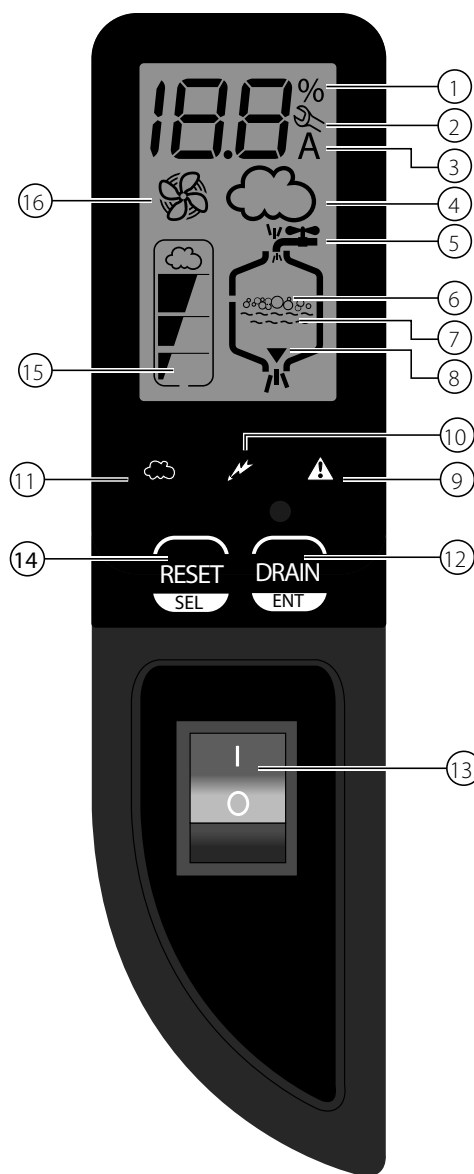

Fig. 4.a
- Push the top part of the ON/OFF button so that the "1" part is in (See item #13 in Fig. 4.a.). The yellow power LED will be lit. The 5500 Steam Humidifier is now ready to operate.